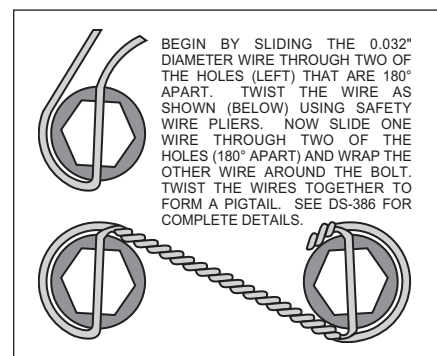

Figure 6. Safety Wire Diagram
- Slide the caliper mounting bracket kit assembly (1) onto the housing flange and then insert the axle assembly through the center hole of the caliper mounting bracket assembly (1). Align the bearing retainer (2) with the four holes inside the bracket assembly (1) and secure using the stock Original Equipment Manufacturer (OEM) bolts and nuts. Stock OEM hex nuts that retain the caliper mounting bracket assembly (1) and retainer (2) should be on the wheel side of the bracket. Apply red *Loctite*® 271 to the stock OEM bolt threads and torque to OEM specifications. Make sure the heads of the caliper mounting bracket assembly (1) insert nuts are **FACING OUTWARD TOWARDS THE WHEEL.**
- Align the correct hole pattern in the rotor (3) with the stud pattern on the axle flange. **NOTE:** Some OEM and after market axles come with stud sizes larger than 0.50” diameter. Verify stud size and have a qualified machine shop drill the bolt circle of the rotor to the correct size, if necessary. Slide the rotor (3) over the wheel studs covering the mounting bracket assembly (1) and against the axle flange face.
- NOTE:** Please reference the caution statement at the beginning of the assembly instructions. **WITH THE BLEED SCREWS POINTING UP,** mount the caliper (4) over the rotor (3) and onto the caliper mounting bracket (1) using lock washers (5) and mounting bolts (6). View the rotor through the top opening of the caliper. The rotor should be aligned in the center of the caliper. If not, adjust the caliper by using 0.032 inch shims (7) by placing them between the caliper mounting bracket (1) and the caliper (4). Apply red *Loctite*® 271 to the mounting bolt threads (6), torque to 30 ft-lb. Safety wire the caliper mounting bolts (6) using standard 0.032 inch diameter stainless steel safety wire as shown in Figure 6. Please refer to Wilwood’s data sheet DS-386 (available at www.wilwood.com/pdf/ds386.pdf) for complete safety wire installation instructions.
- Position the Wilwood disc brake pads (8) into the caliper (4) and fasten with cotter pin (9). Steel backing plate side of brake pad should face the caliper pistons.
- Before final installation of the wheel, install a couple of lug nuts and adjust the parking brake shoes outward (using a drum shoe adjustment tool available at your local auto parts store) while spinning the rotor/hat (3) until a slight drag is felt again the hat/drum.